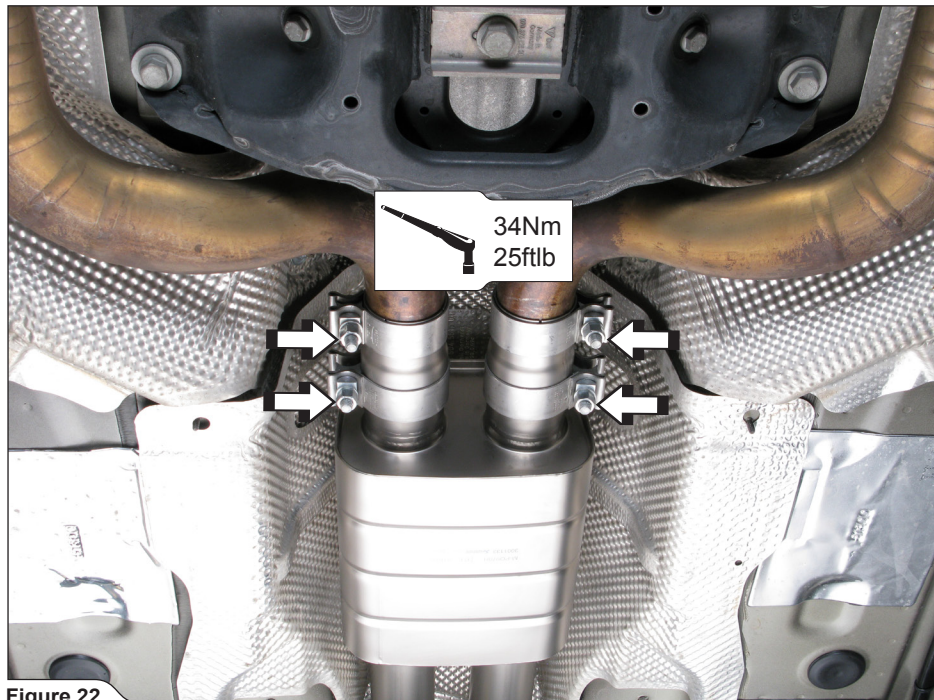

Figure 22
9. For V6 and V8-non turbo vehicle models only: join the Akrapovič link pipes and original front pipes, align the adapters with clamps on the middle of the joint and tighten the clamps to a specified torque (Figure 22).